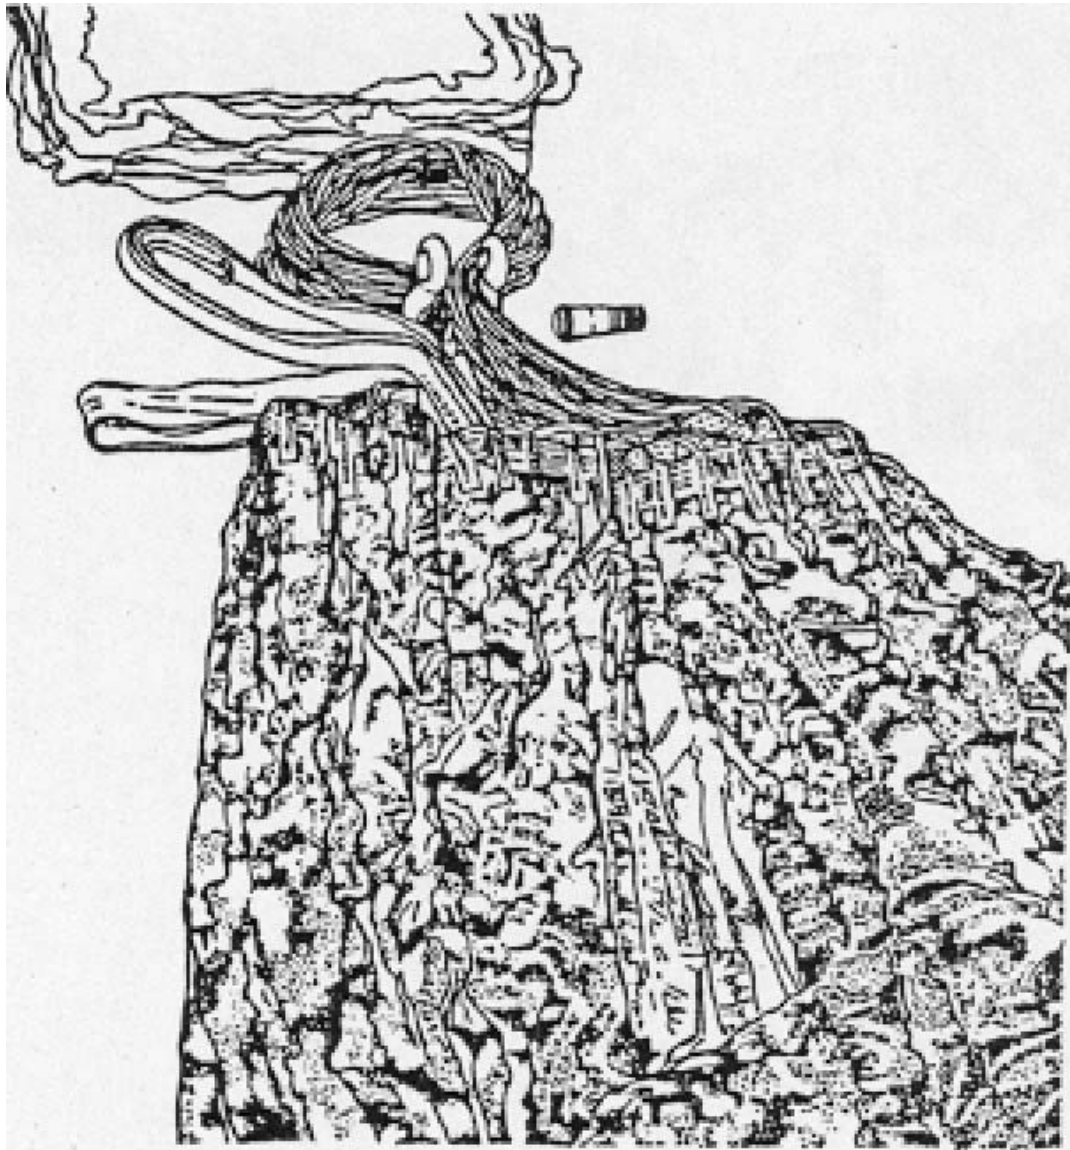

Figure 3-23
- c. Rotate the vent lines down over the shackle legs to form a girth hitch. (See Figure 3-23)